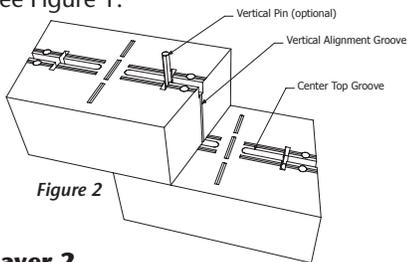

Figure 2
The vertical alignment groove on the side of each Stretcher Stone is utilized for vertical visual alignment with the center of the top groove. The marking on the top of the wallstones will also line up on straight runs. See Figure 2. MaytRx & Stretcher Stone use a visual alignment system for vertical or setback walls that do not require "geogrid" by either:
- Aligning the vertical line with the center groove for vertical wall projects. See Figure 2.